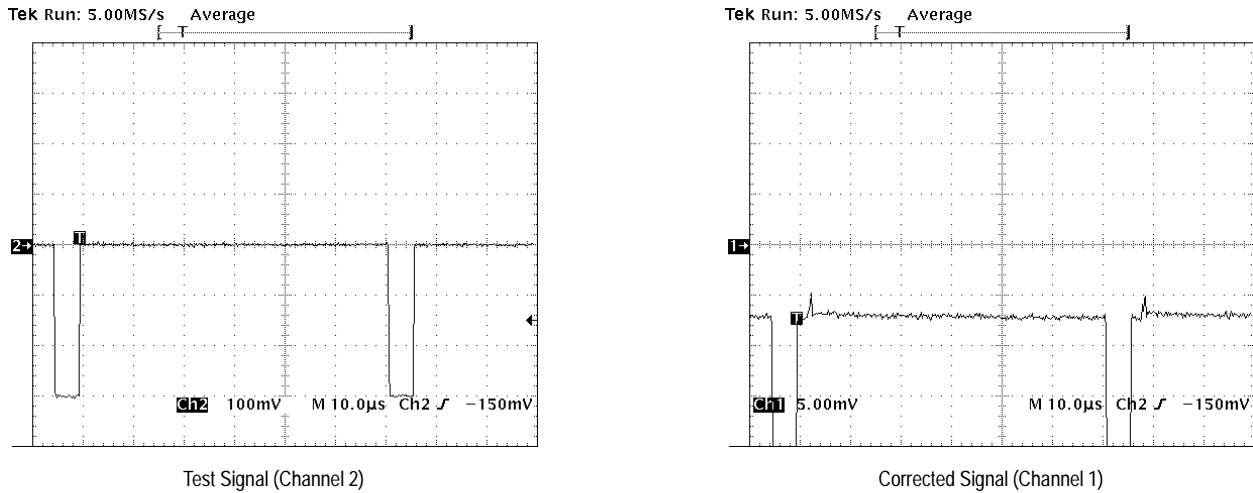

Figure 12: Measuring Interference
6. Verify that any interference on the high level of the pulse is <math><10\text{ mV}_{\text{p-p}}</math> (see Figure 12).